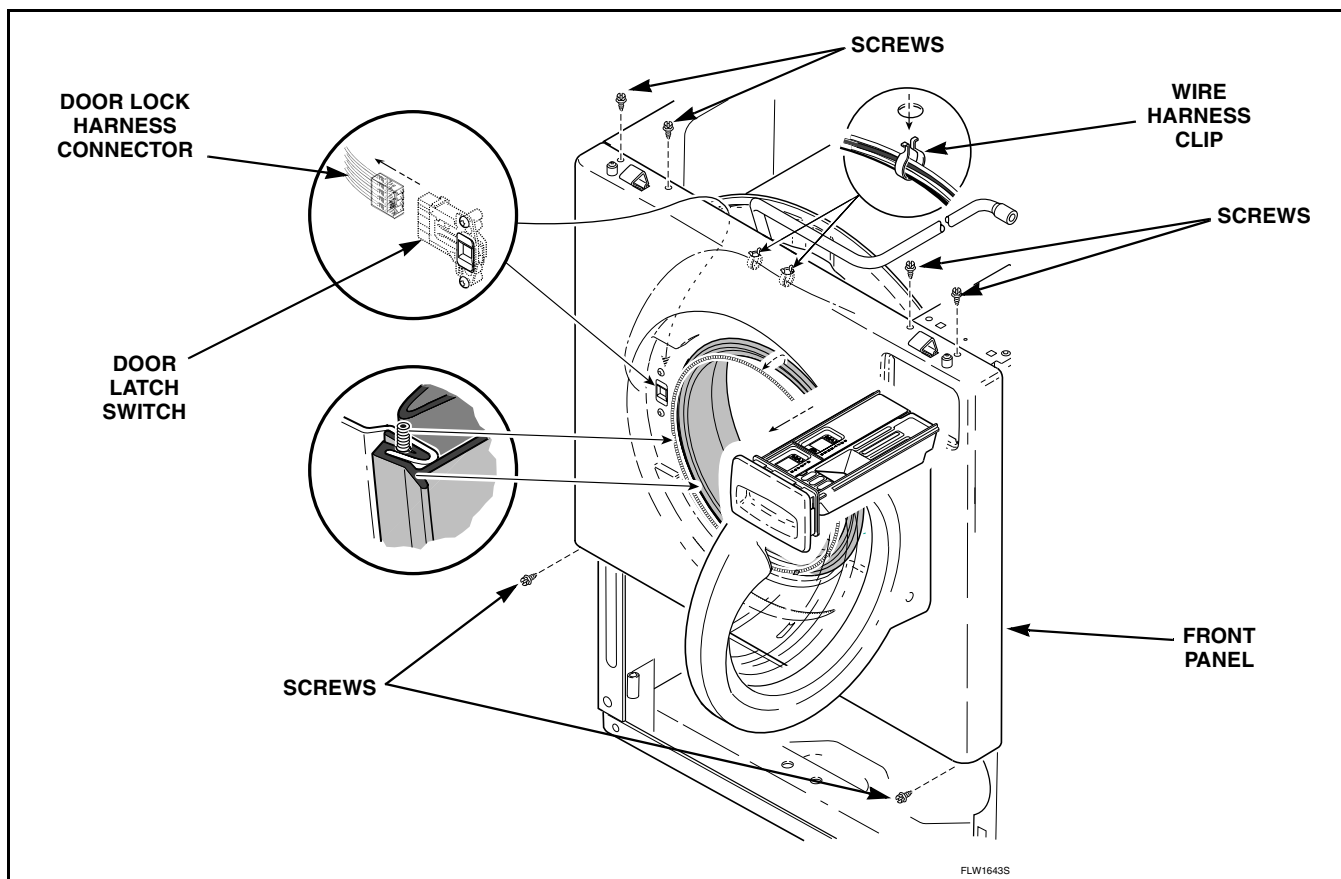

Figure 13
- e. Remove two screws on top right side of front panel (above dispenser drawer), top left two screws and then bottom two front corner screws. Refer to *Figure 13*.
- d. Remove two screws on top right side of front panel (above dispenser drawer), top left two screws and then bottom two front corner screws. Refer to Figure 13.